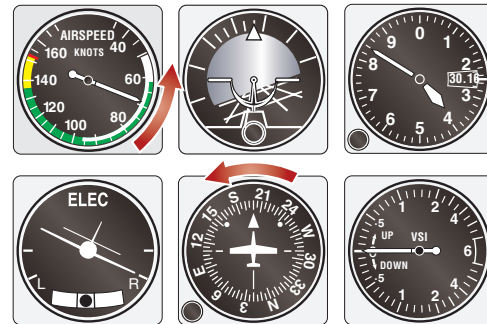

Figure 29-29 Question 17.
17. Interpret the flight attitude in figure 29-29, and determine the action to take (if any) to return the airplane to normal straight-and-level flight.